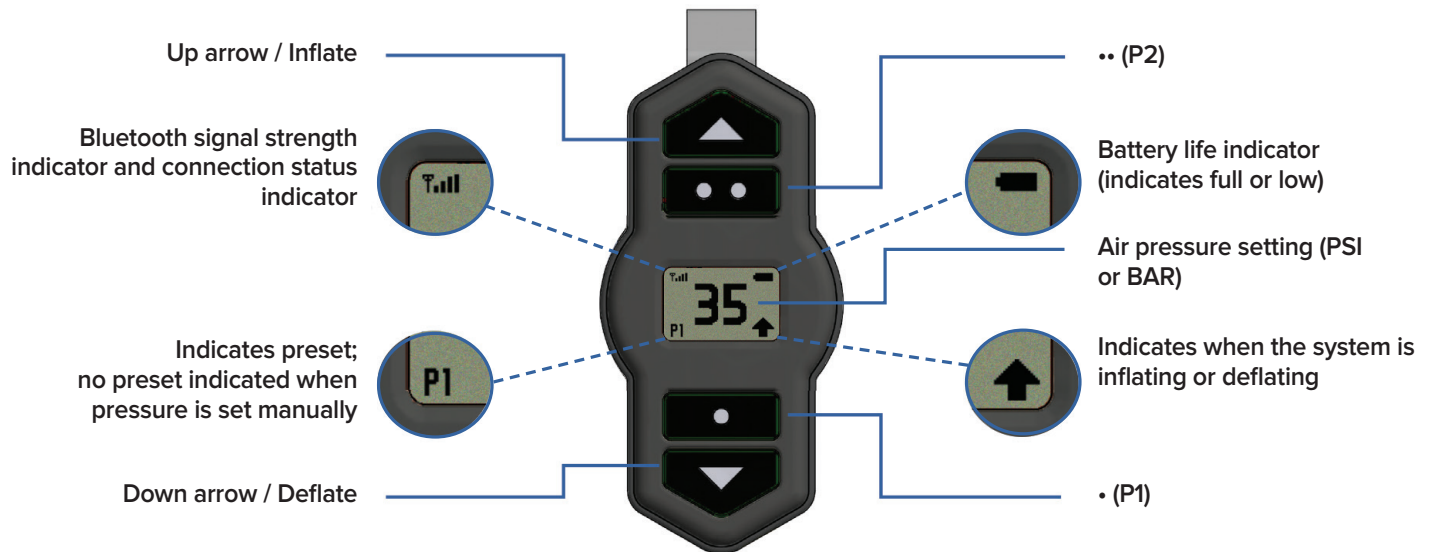

figure 1
**NOTE:** To enter the menu, press the inflate and deflate buttons at the same time (fig. 1).